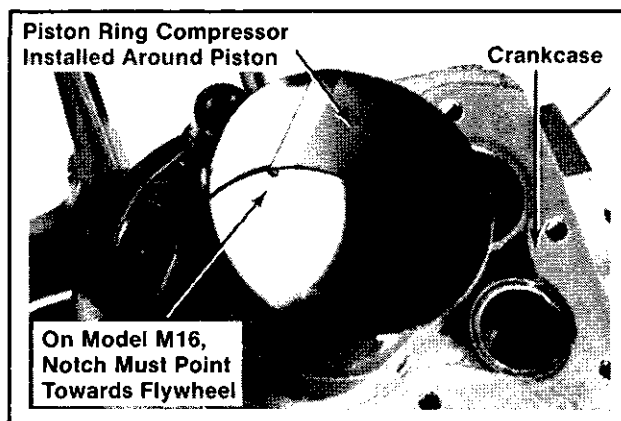

Figure 12B-21. Installing Piston.
2. Lubricate the piston and rings with engine oil. Install the piston ring compressor around piston. Refer to Figure 12B-21.
4. Lubricate the crankshaft and connecting rod journal surfaces with engine oil. Install the connecting rod cap—make sure the match marks are aligned and the oil hole is towards the camshaft. Refer to Figure 12B-22.